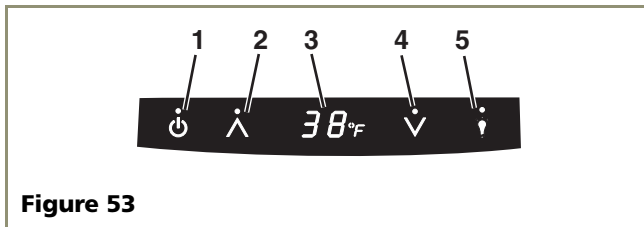

Figure 53
- Open the door and press the POWER icon (see **Figure 53, 1 (Page 23)**) on the display panel until OFF is displayed.
- Open the door and press the POWER icon (see **Figure 53, 1 (Page 23)**) on the display until OFF is displayed.
Once installation and leveling is complete, the unit is ready for initial start-up and operation. The display panel is located inside the unit, on the top of the refrigerator side (see **Figure 53, 1**).
3. Press the POWER icon (see **Figure 53, 1**) and hold for approximately five seconds until the °F symbol flashes and release. The water fill valve will energize and fill the water reservoir. The water fill valve shuts off after approximately 180 seconds (3 minutes). The compressor begins to operate.
The CLRCO2175 display (see **Figure 53, 3**) will show the set-point temperature (38°F) when the unit is on and will show OFF when the unit is off. The CLR2160 display (see **Figure 53, 3**) will show ICE when the unit is on and will show OFF when the unit is off.